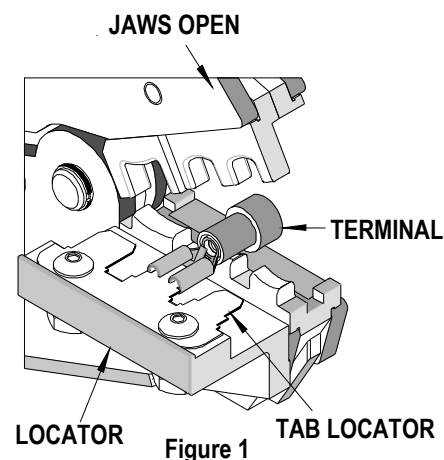

Figure 1
2. Push the terminal onto the tab locator all the way to the stop in the proper color-coded nest. The Barrel of the terminal should be up. See Figure 1.